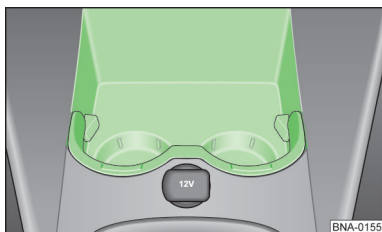

Fig. 62
- Clean the parts » fig. 62 with a clean, lint-free cloth dampened with water.